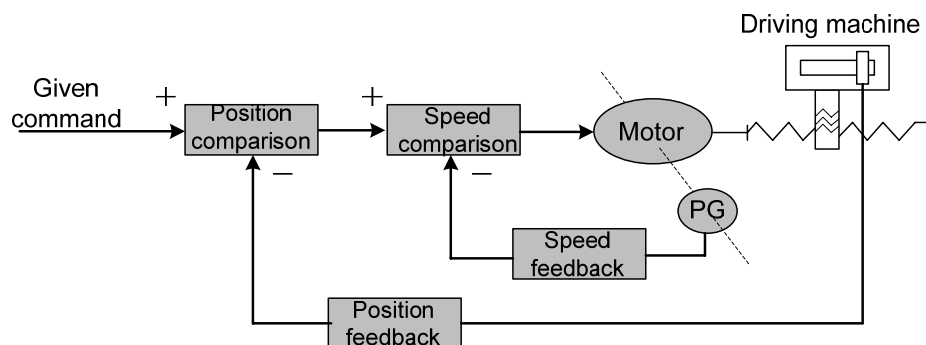
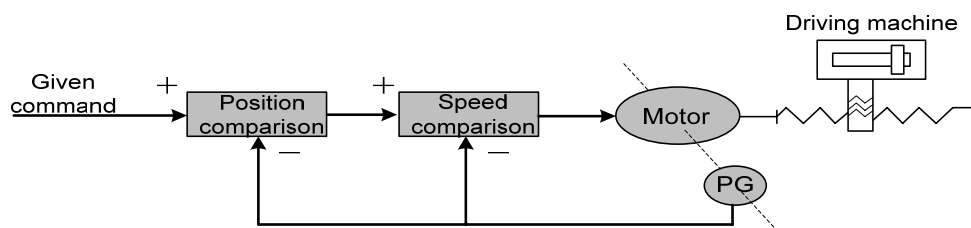

Fig. 1-4 Full closed-loop control equipment
Fig. 1-5 Semi-closed-loop control equipment
- Closed-loop control:** The controlled amount of the control equipment is detected by the feedback unit and sent to the control unit, and the control equipment changes the controlled variable through controlling the output of the control unit. The closed-loop control equipment is divided into **the full closed-loop control equipment** and **the semi-closed-loop control equipment** based upon the check position of feedback unit. The feedback unit directly detects the controlled amount for feedback which is called the complete closed-loop control equipment (see Fig. 1-4), and the mechanical position is regarded as the controlled amount, the grating rule installed on the machine is regarded as a position feedback unit, and the encoder mounted on the servo motor is treated as a speed feedback unit, and then the equipment achieves a full closed-loop control in the mechanical position. If the grating rule is not mounted, the encoder of servo motor is simultaneously regarded as the position and speed feedback unit (see Fig. 1-5). Therefore, this is a semi-closed-loop control equipment of a machine position.